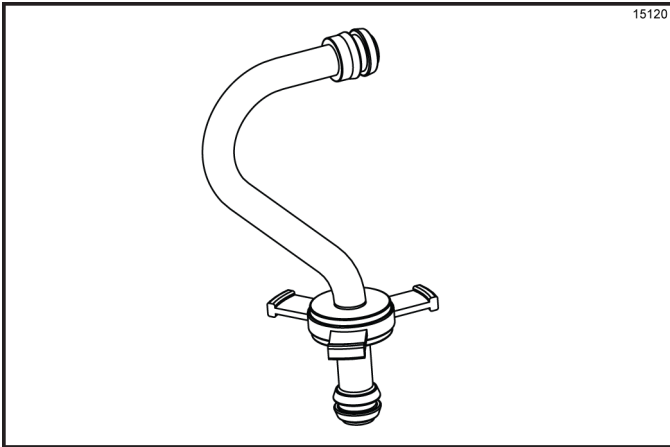

Figure 6-30
10. Assemble the feed tube assembly. Slide the check ring into the groove of the feed tube. (See Figure 6-30.)